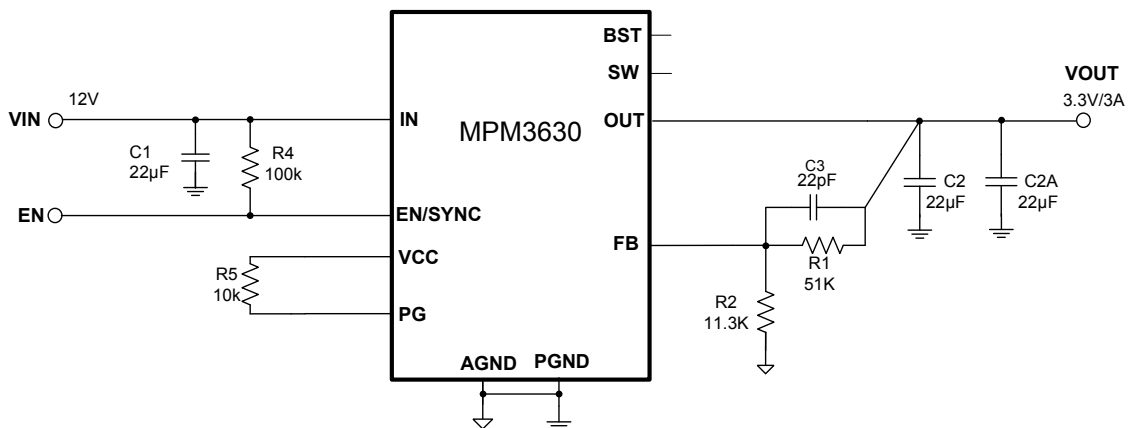

Figure 14: Vo = 3.3V, Io = 3A
9) The recommended layout is based on the Figure 14 Typical Application circuit.
The detailed application schematic is shown in Figure 14. The typical performance and circuit waveforms have been shown in the Typical Performance Characteristics section. For more device applications, please refer to the related Evaluation Board Datasheets.